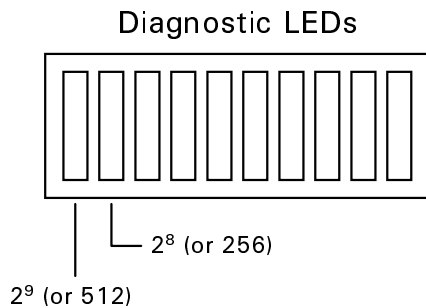

Figure 2. Binary-coded LED Display
- binary pattern (left-most LED is  $2^9$  [or 512], second-most LED is  $2^8$  [or 256], and so on; see Figure 2)